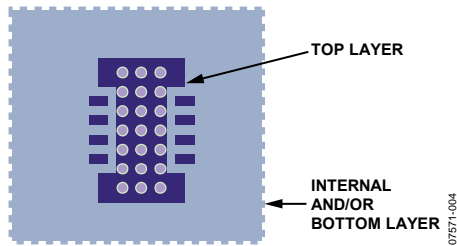

Figure 4. Heat Sink Layout
1. Place at least nine vias on the thermal solder pad of the amplifier for proper conduction of heat to the opposite side of the board. The outer diameter of the vias should be 0.5 mm and the inner diameter should be 0.25 mm to 0.3 mm. Use a PCB area of at least 2 cm² equivalent area on the opposite side of the layer of the amplifier chip as a heat sink. Also, extend the ground pad (for the thermal pad) as much as possible on the amplifier side of the PCB as a heat sink (see Figure 4). If internal layers are available, allocate a certain area as a heat sink; make sure to connect the vias conducting the heat to the internal layers.